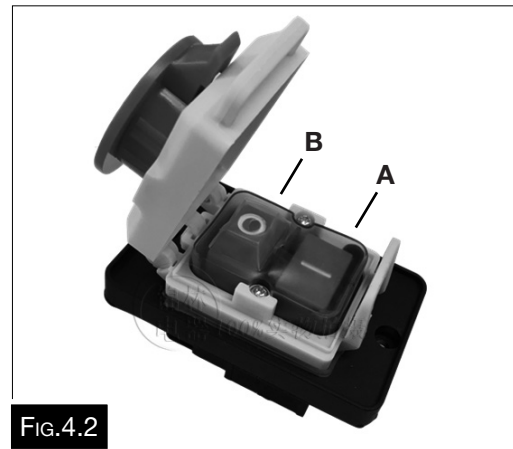

FIG.4.2
Push the bottom green button (A) to turn the machine ON. Push the top red button (B) to turn the machine OFF. (Fig.4.2)